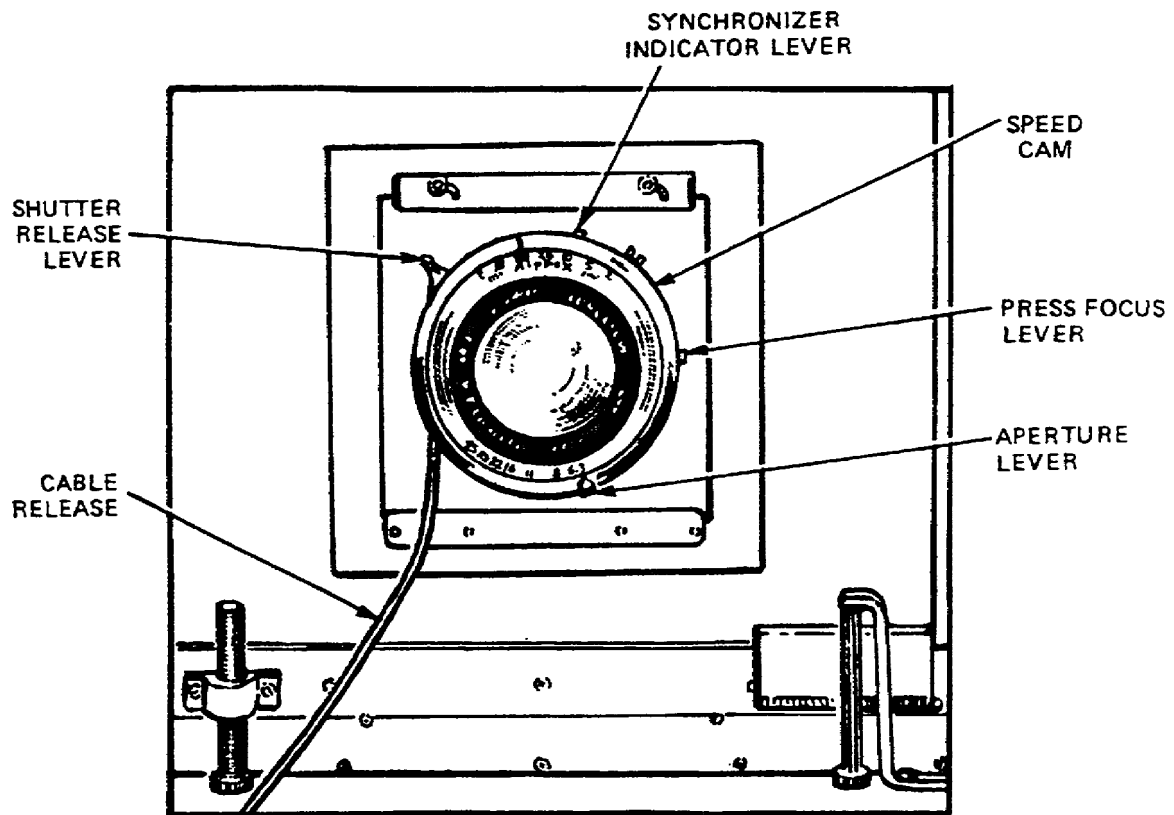

Figure 1-51. Lens Assembly Controls.
b. Lens assembly controls (fig 1-51).